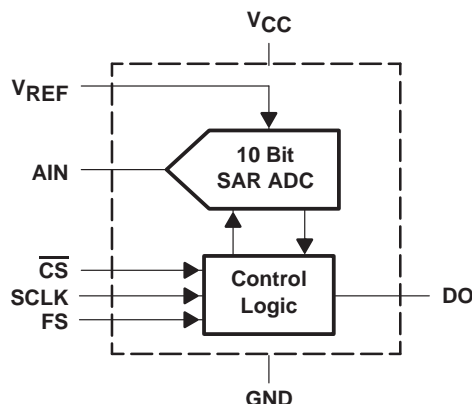

Figure 2. TLV1572 Functional Block Diagram
The TLV1572 is a 10-bit successive approximation analog-to digital converter (ADC), as shown in Figure 2. The TLV1572 has one analog input (AIN), chip-select (\overline{CS}), serial clock (SCLK), and serial data output (DO).
The following statements describe the generation and application of the configuration and control signals (see Figure 1 and Figure 2):